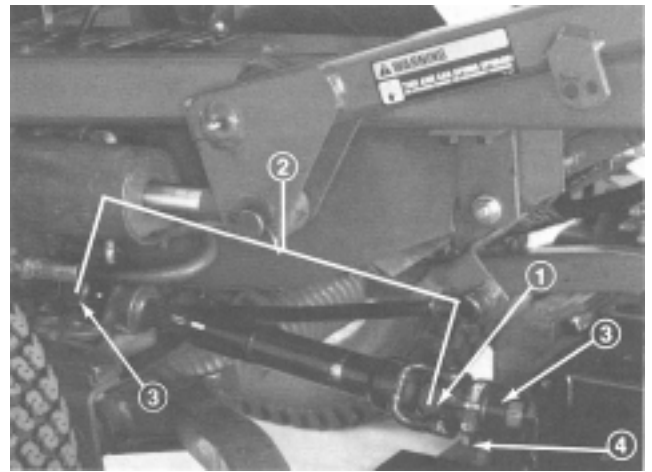

Figure 13
1. Slide smaller yoke end of PTO shaft onto traction unit PTO shaft onto traction unit PTO shaft while aligning mounting holes (Fig. 13). Secure with roll pin. Do not install front end of drive shaft at this time.
1. Line up holes in yoke and input shaft of gear box. Slide yoke onto shaft (Fig. 13) and secure parts together with a roll pin (3/16 x 1-1/2 in.) (38 mm). Tighten (2) capscrews and locknuts securing yoke to input shaft.